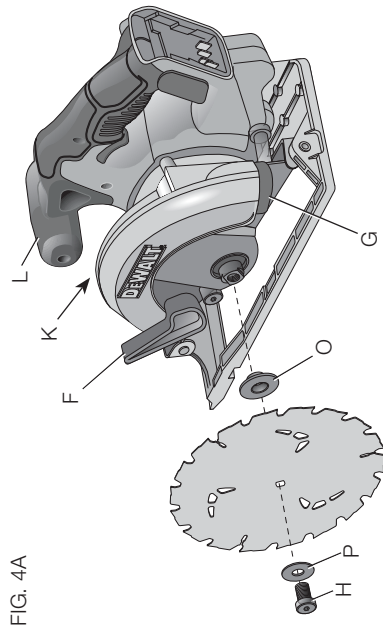

FIG. 4A
1. Place inner clamp washer (O) on saw spindle with the large flat surface facing out toward the blade (Fig. 4A, 4B).
2. Retract the lower blade guard (G) and place blade on saw spindle against the inner clamp washer, making sure that the blade will rotate in the proper direction (the direction of the rotation arrow on the saw blade and the teeth must point in the same